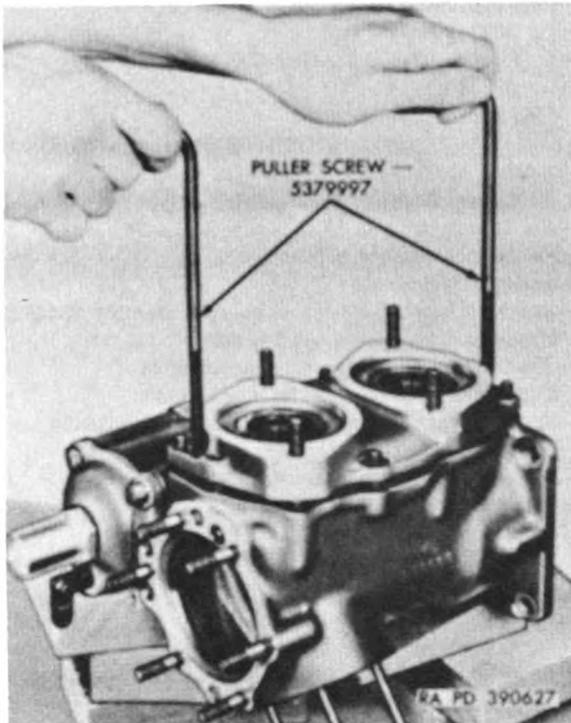

Figure 123. Removing magneto drive adapter assembly.
- (1) Remove five hex self-locking nuts (EE), or hex stamped nuts (FF) and hex nuts (EE), and flat washers (DD) securing magneto drive adapter assembly (CC) to magneto drive housing.
- (2) Remove adapter assembly from drive housing using two puller screws 5379997 (fig. 123). Remove and discard magneto drive adapter gasket (F).
- (3) Do not remove two oil seals (CC-1) unless inspection (par. 132) indicates replacement is necessary. To remove seals, press seals from drive assembly using a suitable press.
- (4) Lift two magneto driven gears (J) from magneto drive housing (K-5).